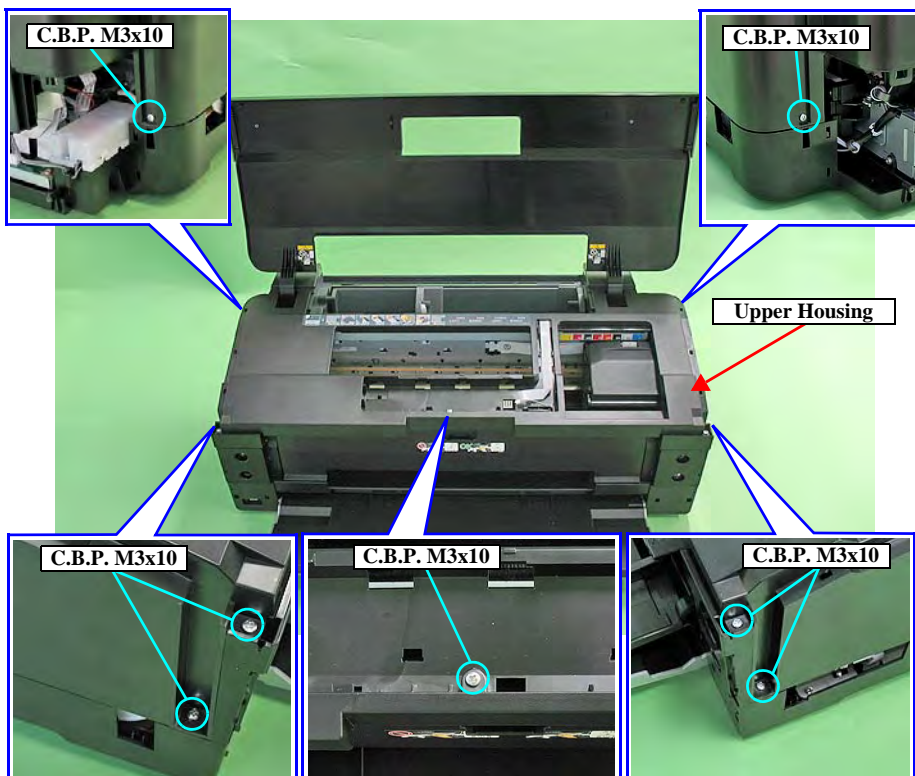

Figure 4-18. Remove the Upper Housing
- Tighten the screws in the order shown in Figure 4-18.